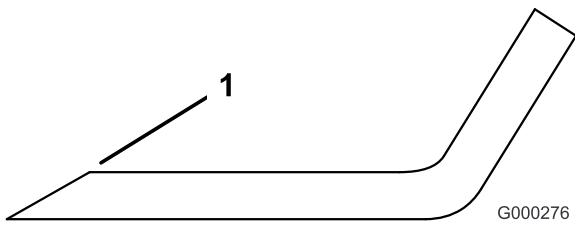

Figure 101
4. Sharpen the cutting edges if they are dull or nicked (Figure 101).